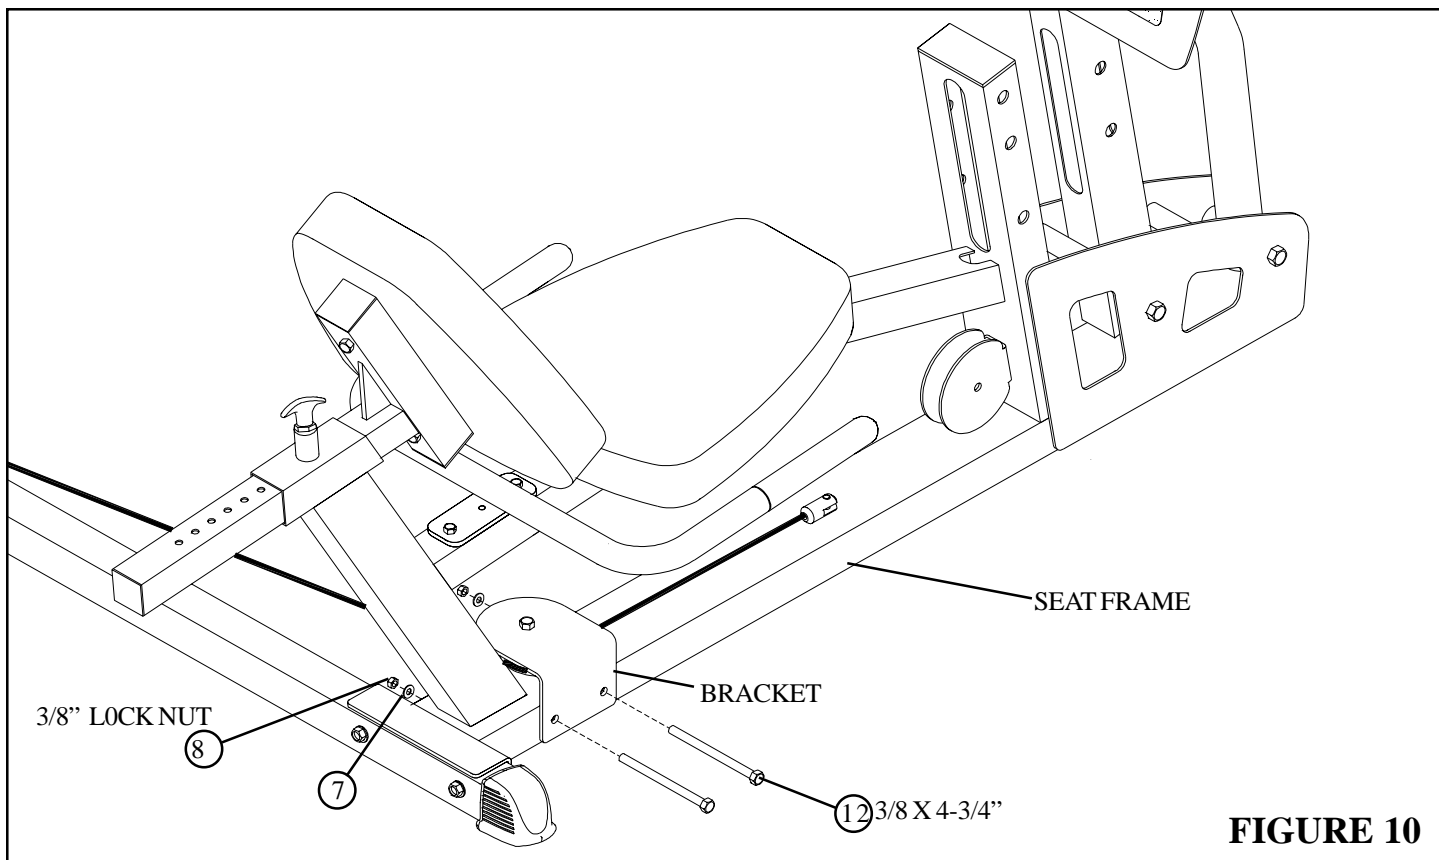

FIGURE 10
- **SECURELY** attach the BRACKET (from LP5 LEG PRESS) to the SEAT FRAME using two 3/8" X 4-3/4" BOLTS (12), two 3/8" WASHERS (7), and two 3/8" LOCK NUTS (8). See FIGURE 10.